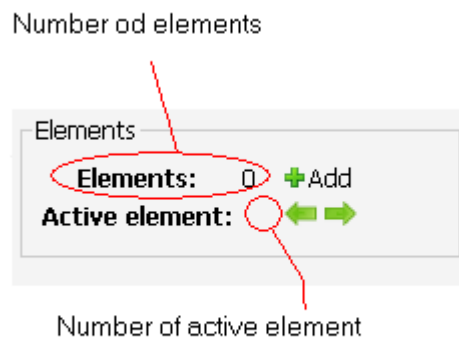

Fig. 50. Elements of synoptic map
- b) Elements – the part of the left menu presented on the fig. 50, allows for applying new elements on the map.